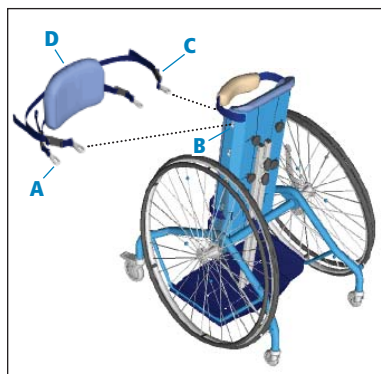

Figure 9a
1. Snap four snap-hooks (A) into metal loops (B) on body support (see Figure 9a).